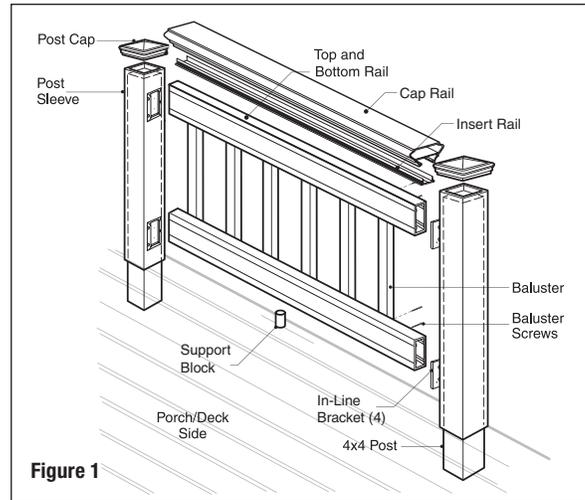
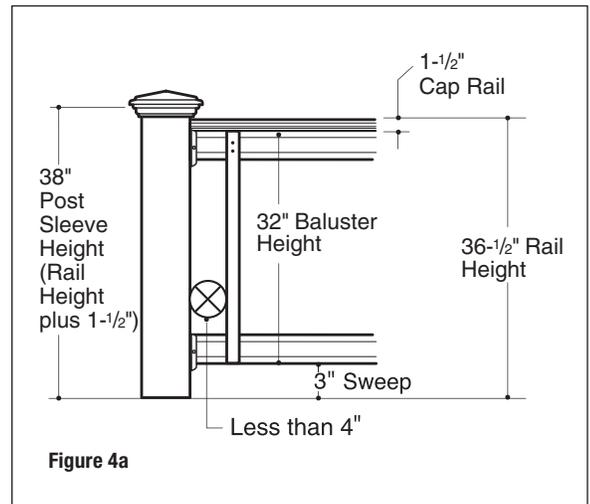

Figure 1
Figure 4a
**Step 5** Trim 4x4 post sleeves to length. Post sleeves should be a minimum of 1-1/2" longer than the overall railing height (**Figure 4a and 4b**). Allow an additional 1-1/2" in your calculation if installing the optional cap rail. Example: For a 36" high railing, trim post sleeve to a minimum of 37-1/2" (39" with cap rail). Post sleeve can be left longer if desired.
**Step 6** Measure the distance between installed post sleeves to determine the length of the top and bottom rails (**Figure 1**). The distance between the post and first baluster should be less than 4" and equal on both ends (**Figure 4a and 4b**). Remove an additional 1/4" on both ends (1/2" overall) for the bracket to fit between the rail and post. Trim the top and bottom rails to length.
**Step 8** Position the bottom rail between posts and center. **Check building code requirements for maximum spacing between deck surface and bottom of rail (sweep).** Spacing of 3" is recommended, but can be more or less if codes allow (**Figure 4a and 4b**). Mark the location of the bracket on both posts. Remove rail. Mark the screw locations and pre-drill through the post sleeve only, using a 1/4" drill bit. Attach each bracket to the post with two 2" long screws.
**Step 9** A support block is needed at the center of each rail. Cut the support block to the proper height. Attach to the bottom of the lower rail (refer to Figure 1). Find the center of the rail and pre-drill using a 1/8" drill bit. Attach the support block connector using the included screw. Mark the location of the support block on the deck surface and attach the other support block connector to the deck using the included screw. Install the bottom rail between the posts. Using the brackets as a guide, pre-drill each screw hole using a 1/8" drill bit and attach each end to brackets using two 1" long screws. Tip: Use a driver extension bit to avoid marring the rail or post sleeve with the drill chuck.
**Step 10** Figure 4a and 4b illustrate how a 36" high railing might be sized. If you want to have your railing at a different height, use Figure 4a and 4b as planning tools to determine the height to cut the post sleeves and support blocks. Note: Use a fixture to ensure a consistent length (+/- 1/16").
**Step 7** A support block is needed at the center of each rail. Cut the support block to desired height. Attach to the bottom of the lower rail (refer to **Figure 1**). Find the center of the rail and pre-drill using a 1/8" drill bit. Attach the support block connector using the included screw. Mark the location of the support block on the step tread and attach the other support block connector to the step tread using the included screw.